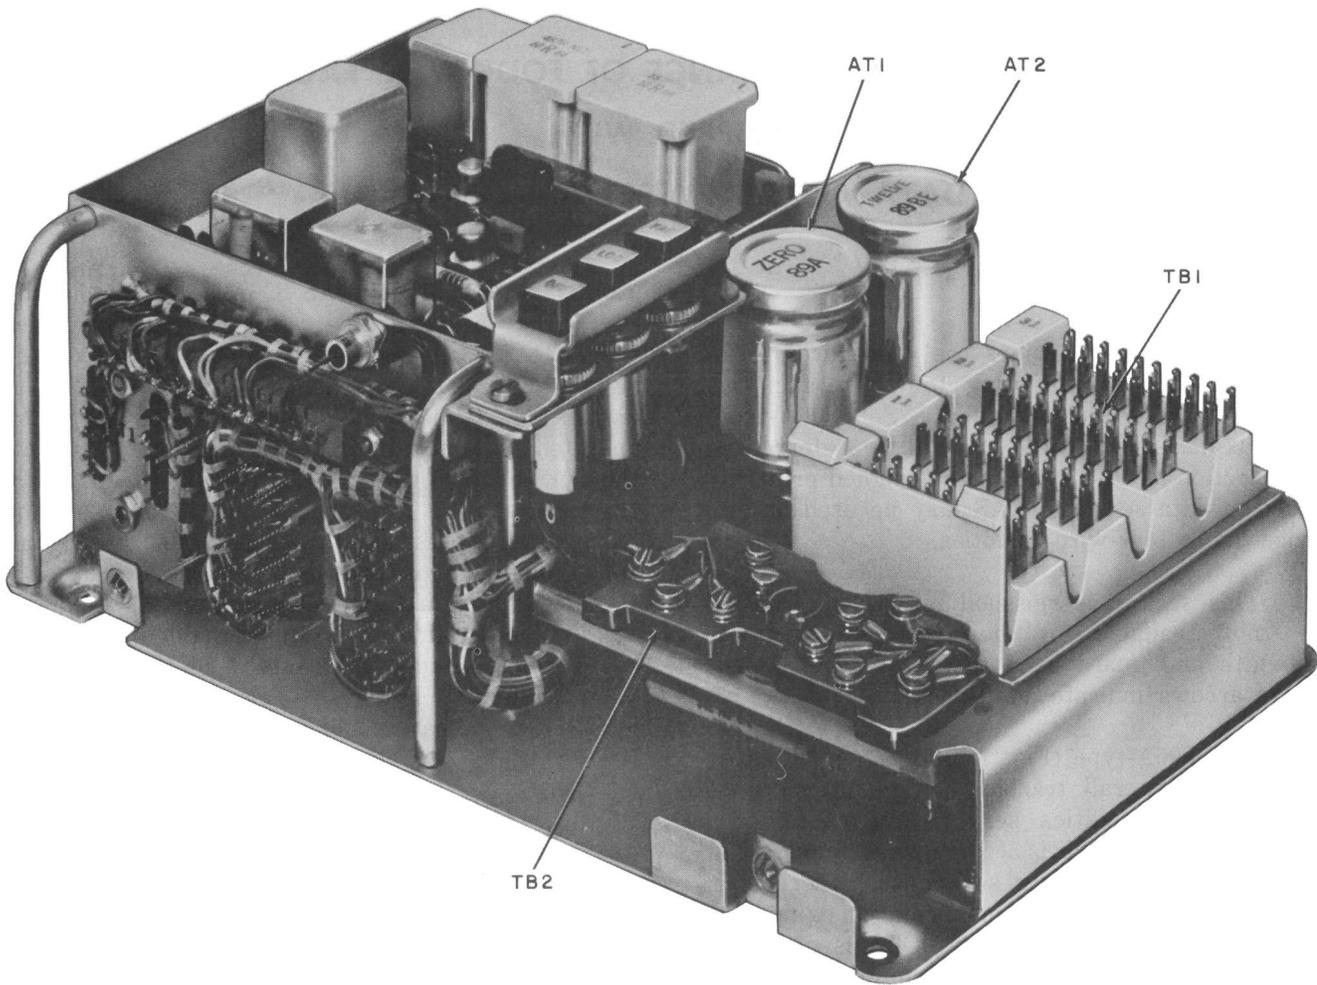

Fig. 1—Data Auxiliary Set 806A-Type—Cover Removed
1.03 DAS 806A-type (Fig. 1) is designed to assist in the overall transmission maintenance of four-wire line facilities serving the customer's station equipment. This is accomplished by installing the DAS on the customer's premises where it is connected between the customer's station equipment and the four-wire line facility. DAS is activated remotely under control of the Serving Test Center (STC), Plant Service Center (PSC), or Data Test Center (DTC). It may also be operated locally under control of the station attendant or telephone employee.